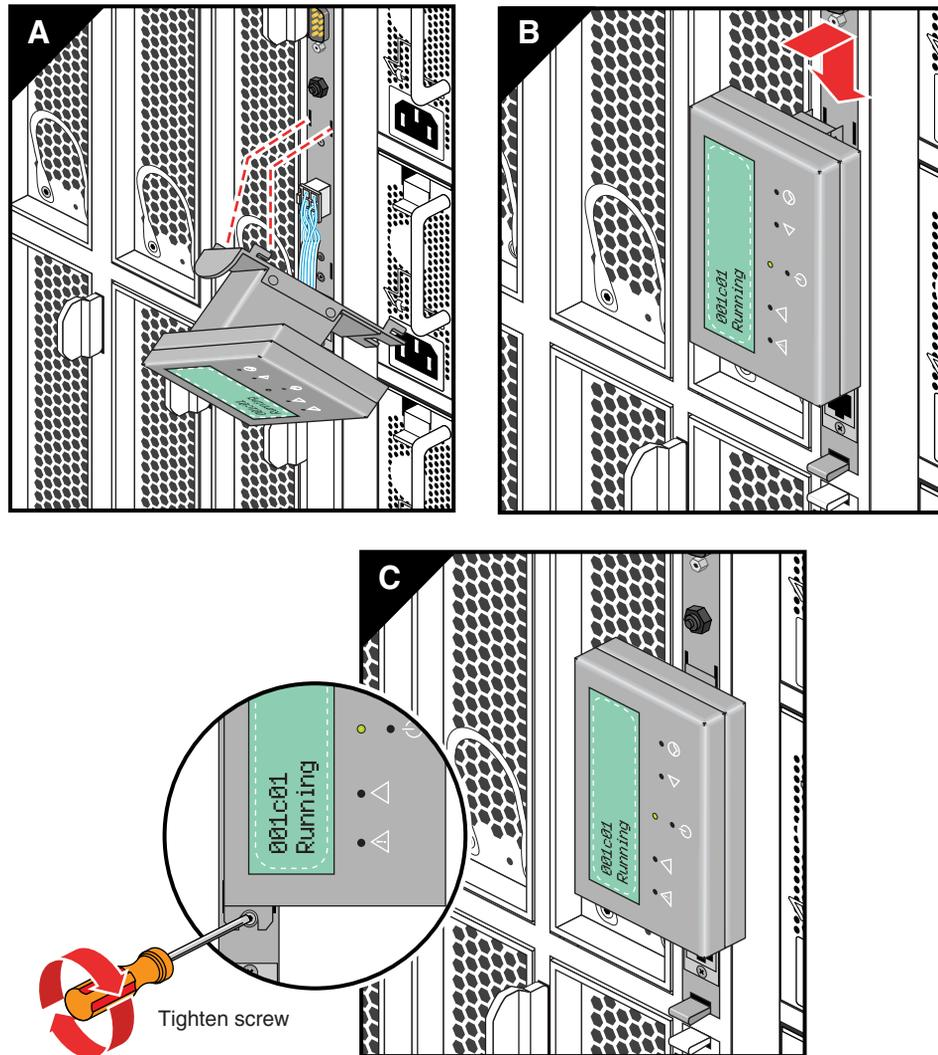

Figure 6-2 Replacing the L1 Controller Panel
1. Position the controller panel assembly slightly above the retention screw and carefully slid it back into place, see Figure 6-2 on page 72. Be careful not to snag the ribbon cable while replacing the panel.